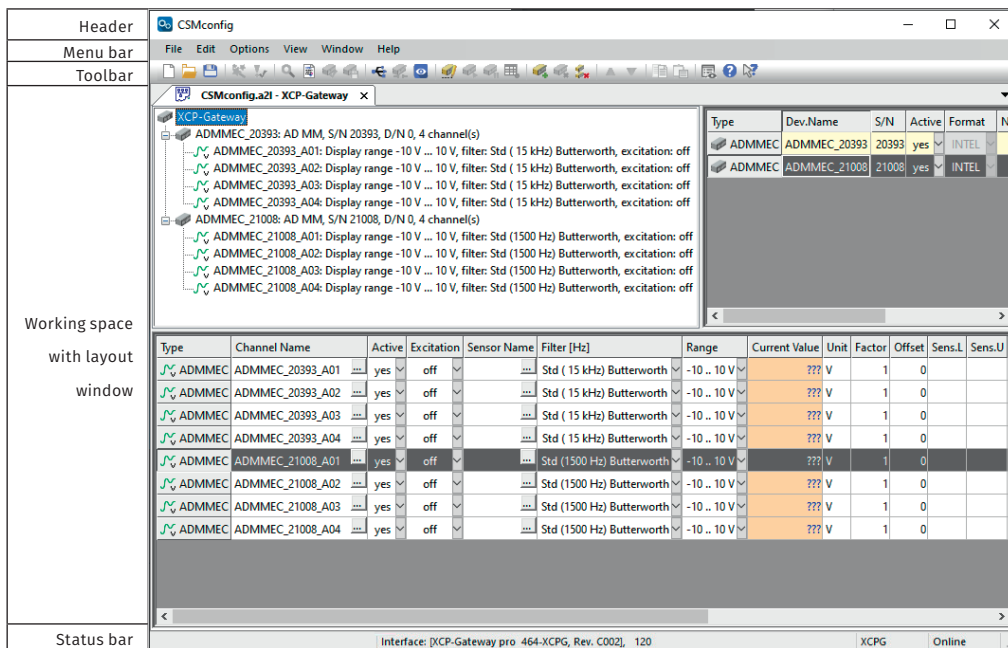

Fig. 6-1: CSMconfig user interface
- ▶ **Tree view** (Fig. 6-1, ①)
- ▶ **Device list** (Fig. 6-1, ②)
- ▶ **Channel list** (Fig. 6-1, ③)